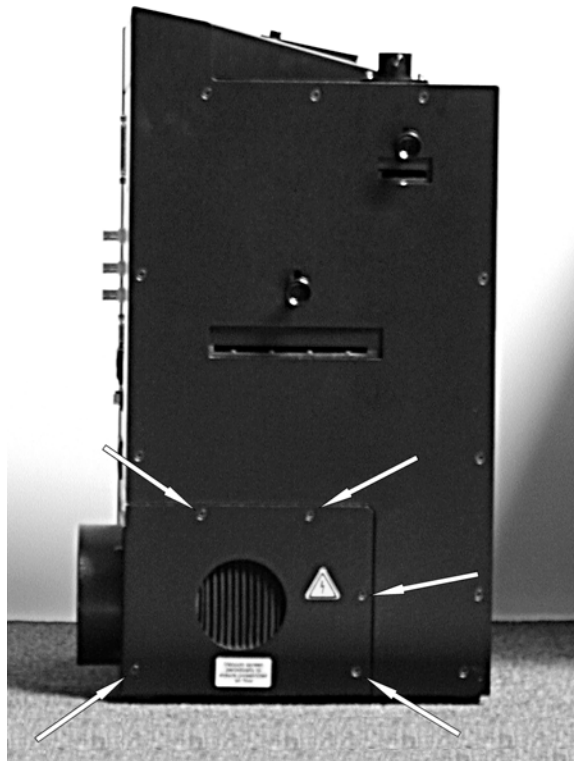

Figure 3. Left side panel of the Lambda DG-4-series system.
| Figure 3. Left side panel of the Lambda DG-4-series system.....                   | 4  |
1. Remove the five screws at the lower left corner of the left side panel (indicated by the arrows in Figure 3) and remove the lamp access door. This will expose a black cover panel with four knurled screws.